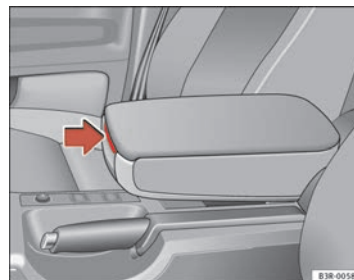

Fig. 114 Armrest
- Press the release lever ⇒ fig. 114.